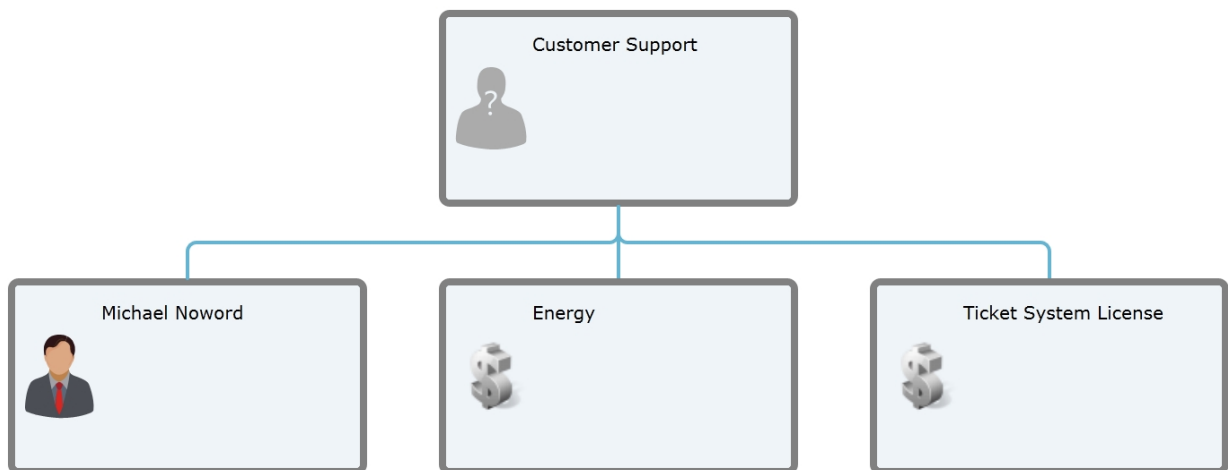

Figure 2: Organizational Diagram IYOPRO link
- Model the organizational set-up (figure 2)